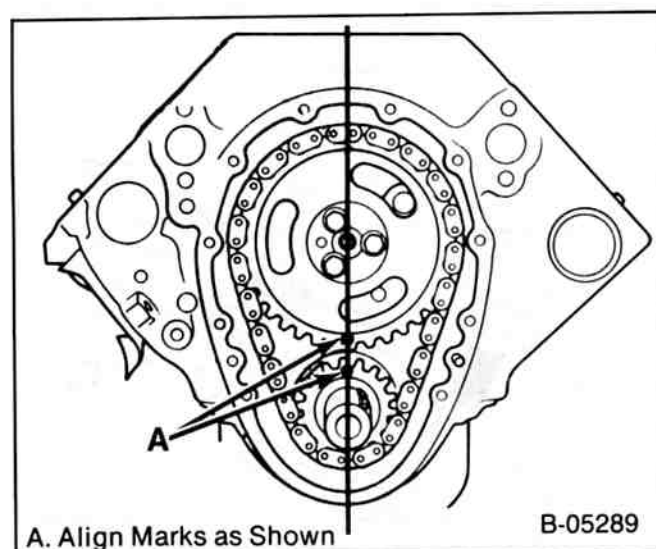

Figure 24—Timing Marks
Remove or Disconnect (Figures 24, 25, and 26)
- Align the timing marks (figure 24).
Install or Connect (Figures 24, 25, and 26)
- Line up the timing marks on the camshaft sprocket and crankshaft sprocket (figure 24).